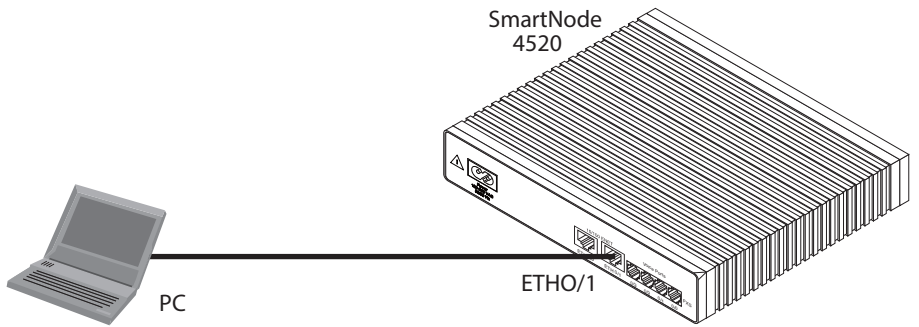

Figure 2. Connecting the SmartNode directly to your PC
LAN interface *ETH0/1* is configured as DHCP server (see **figure 2**).
6. Using the included black Ethernet cable, connect the SmartNode RJ-45 Ethernet LAN port labeled *ETH0/1* directly to the Ethernet port on your PC (see figure 2 on page 3).